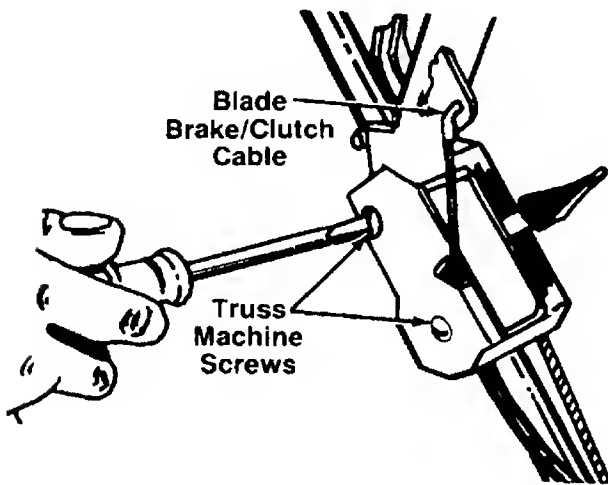

FIGURE 25.
5. Remove two truss machine screws on the inside of the control housing as shown in figure 25.